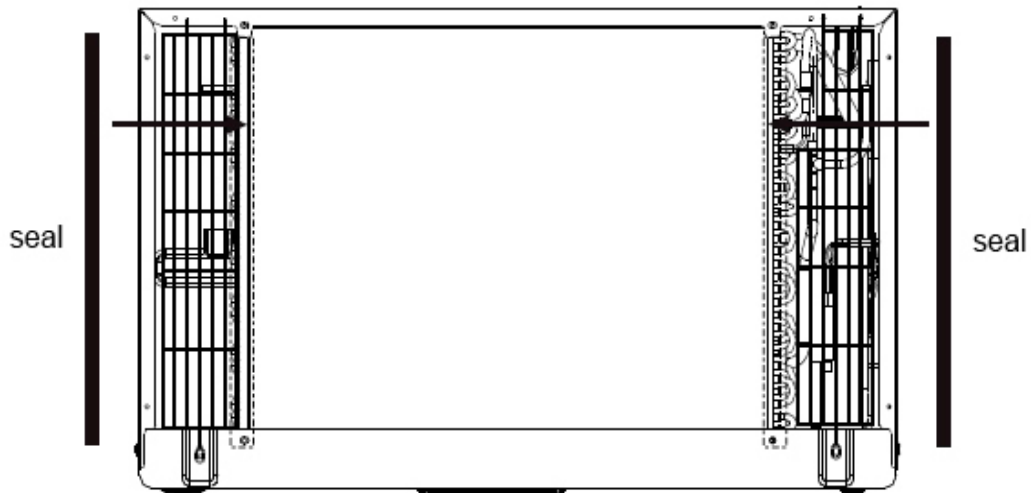

Fig. 1
1. Attach the 2 seal pieces (1'X3/8" X14") as shown in Fig. 1.